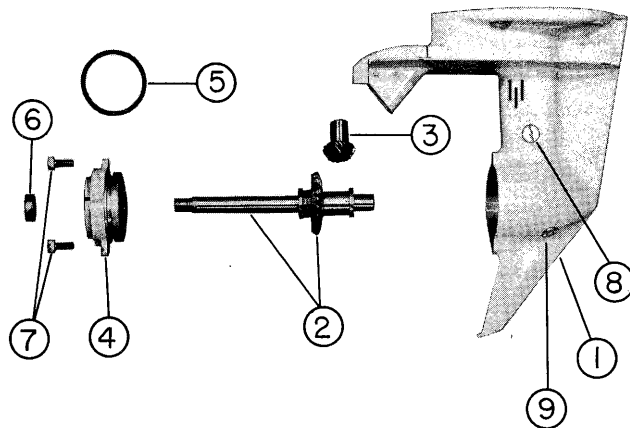

Figure 1A – MODEL JH GEARCASE
1. Remove fill and drain plug and oil level plug (Figure 1A) so that gear oil can be drained from gearcase. Do not re-use gear oil once it is drained.